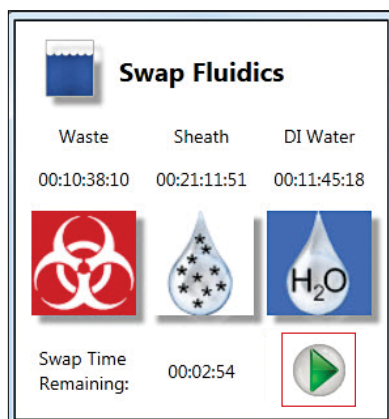

Fig. 3. Play button highlighted in the Swap Fluidics window.
6. Click **Play** in the Swap Fluidics window to finish the swapping procedure (Figure 3).